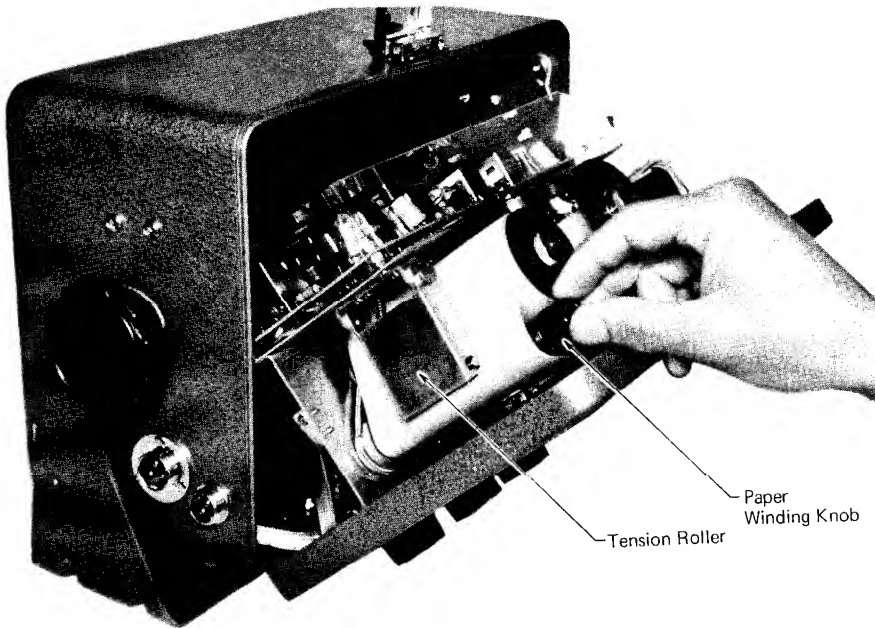

Fig. 4-4
- 3) Rotate the paper winding knob clockwise to completely roll the paper out of the machine. See Fig. 4-4.